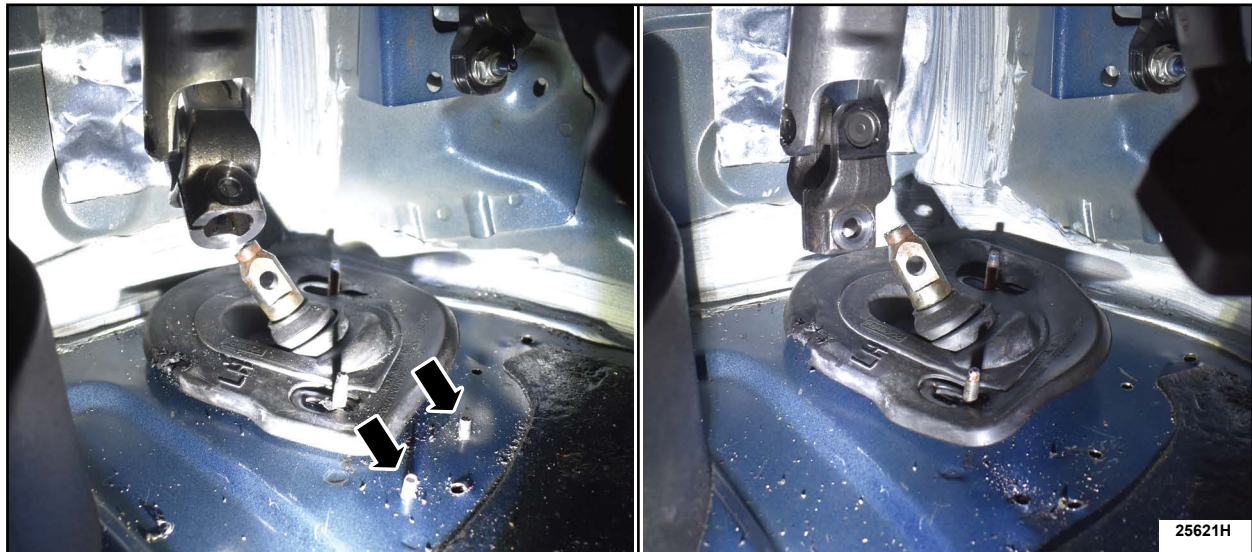

FIGURE 25
13. Using a suitable tool, remove any of the rivet shafts that may have stayed in the sheet metal. See Figure 25.